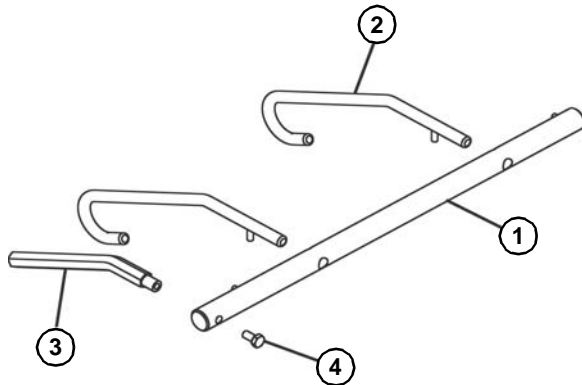

**Figure 22**
3. Ensure that the nose bar pucks (**Figure 22, item 1**) are in line with the conveyor frame (**Figure 22, item 2**).